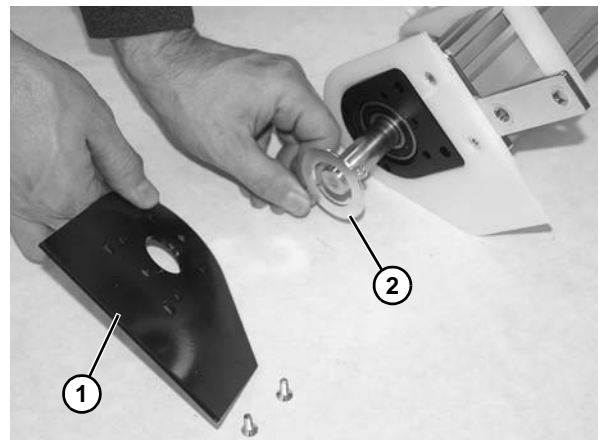

Figure 50
5. Remove cover (Figure 50, item 1).
6. Remove bearing stop plate (Figure 50, item 2).